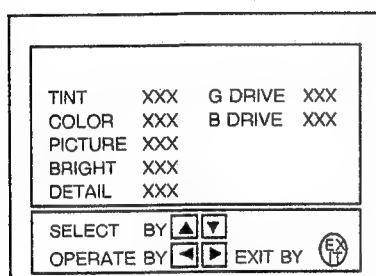

Fig. 8 THEATER MODE
- 6) If any of the THEATER / LOW LIGHT / HIGH LIGHT / RF AFC 1 / RF AFC 2 / I2C BUS CTRL items are selected and the LEFT / RIGHT KEY is pressed, the screens shown in Fig. 8, 9, 10, 11, 12 and 13 are displayed respectively and the settings or verifications can be performed.